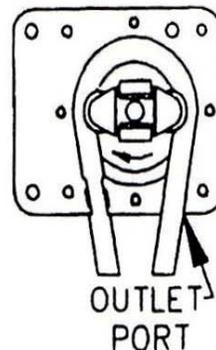

FIG. 4
9. Insert tubing into outlet port (figure 4) and replace cover,